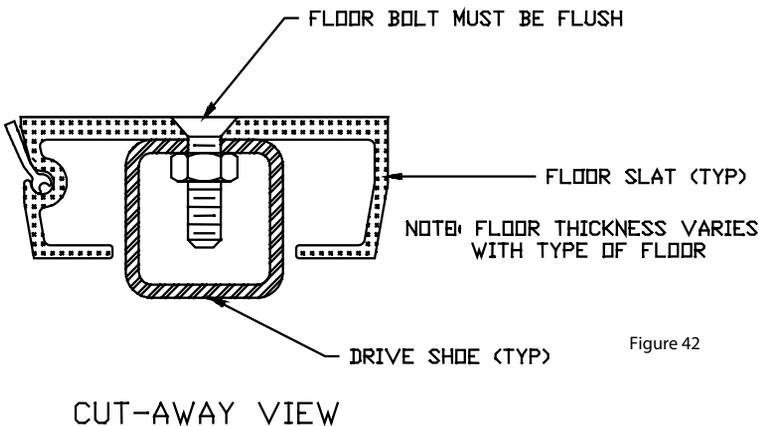

Figure 42
7. Mount floor slats onto shoes. (Figure 42).